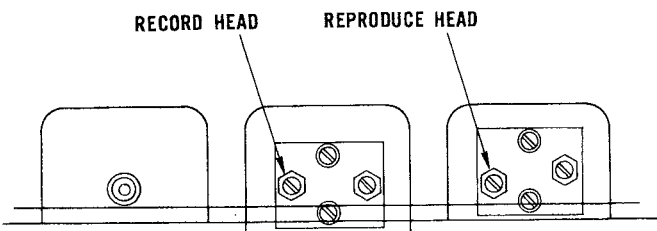

Fig. 5-2 Head Azimuth Adjustment Points
Step 6: The next tone is for use with the reproduce head azimuth adjustment. As this signal is reproduced, adjust the reproduce head azimuth (see Fig. 5-2) to achieve a maximum indication on the vtvm. If the head azimuth is far out of adjustment, minor peaks will be observed on each side of the correct setting; the correct adjustment will be unmistakable, however, for it will result in a vtvm indication obviously higher than the minor peaks.
Step 4: While thus simultaneously recording and reproducing, adjust the record head azimuth screw (see Fig. 5-2) to achieve a maximum vtm indication. There may be minor peaks if the azimuth is far out of adjustment, but correct setting will result in an output obviously higher than the minor peaks.